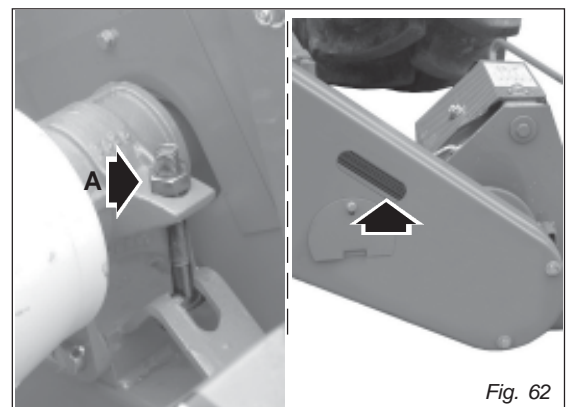

Fig. 62
- Adjust belt tension periodically by adjusting nut (A, Fig. 62). Check tension via the viewing panel on the belt guard. Belt slack must not exceed 1 inch. It is essential to close the inspection hatch with the relative lid after the belts have been examined.